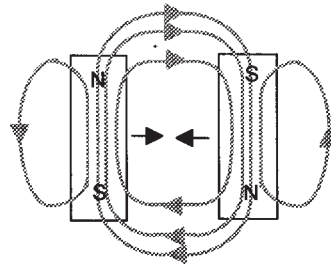

Figure 10.6 Magnetic flux lines
- 4 Lines of magnetic flux are like stretched elastic cords, always trying to shorten themselves. This is illustrated by the two bar magnets in Figure 10.6. The lines in 'attempting to shorten themselves' cause the magnets to be attracted to each other.